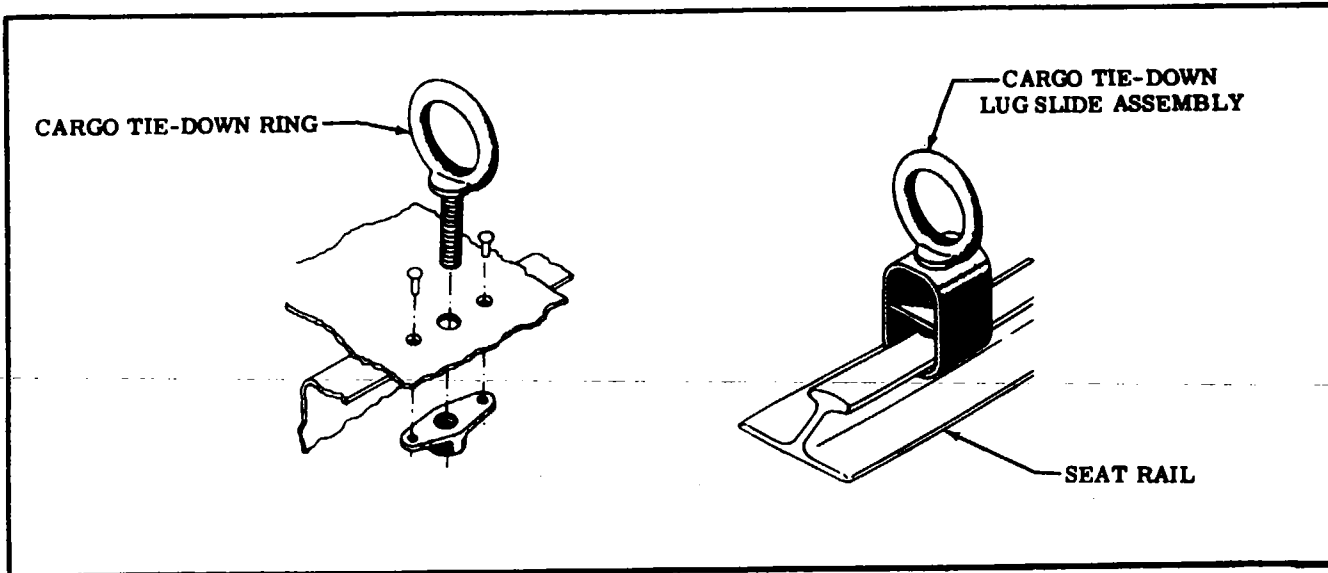

Figure 3-9. Cargo Tie-Down Rings
**3-50. CARGO TIE-DOWNS.** Cargo tie-downs are used to ensure baggage cannot enter seating area during flight. Methods of attaching tie-downs are illustrated in figure 3-9. The eyebolt and nutplate